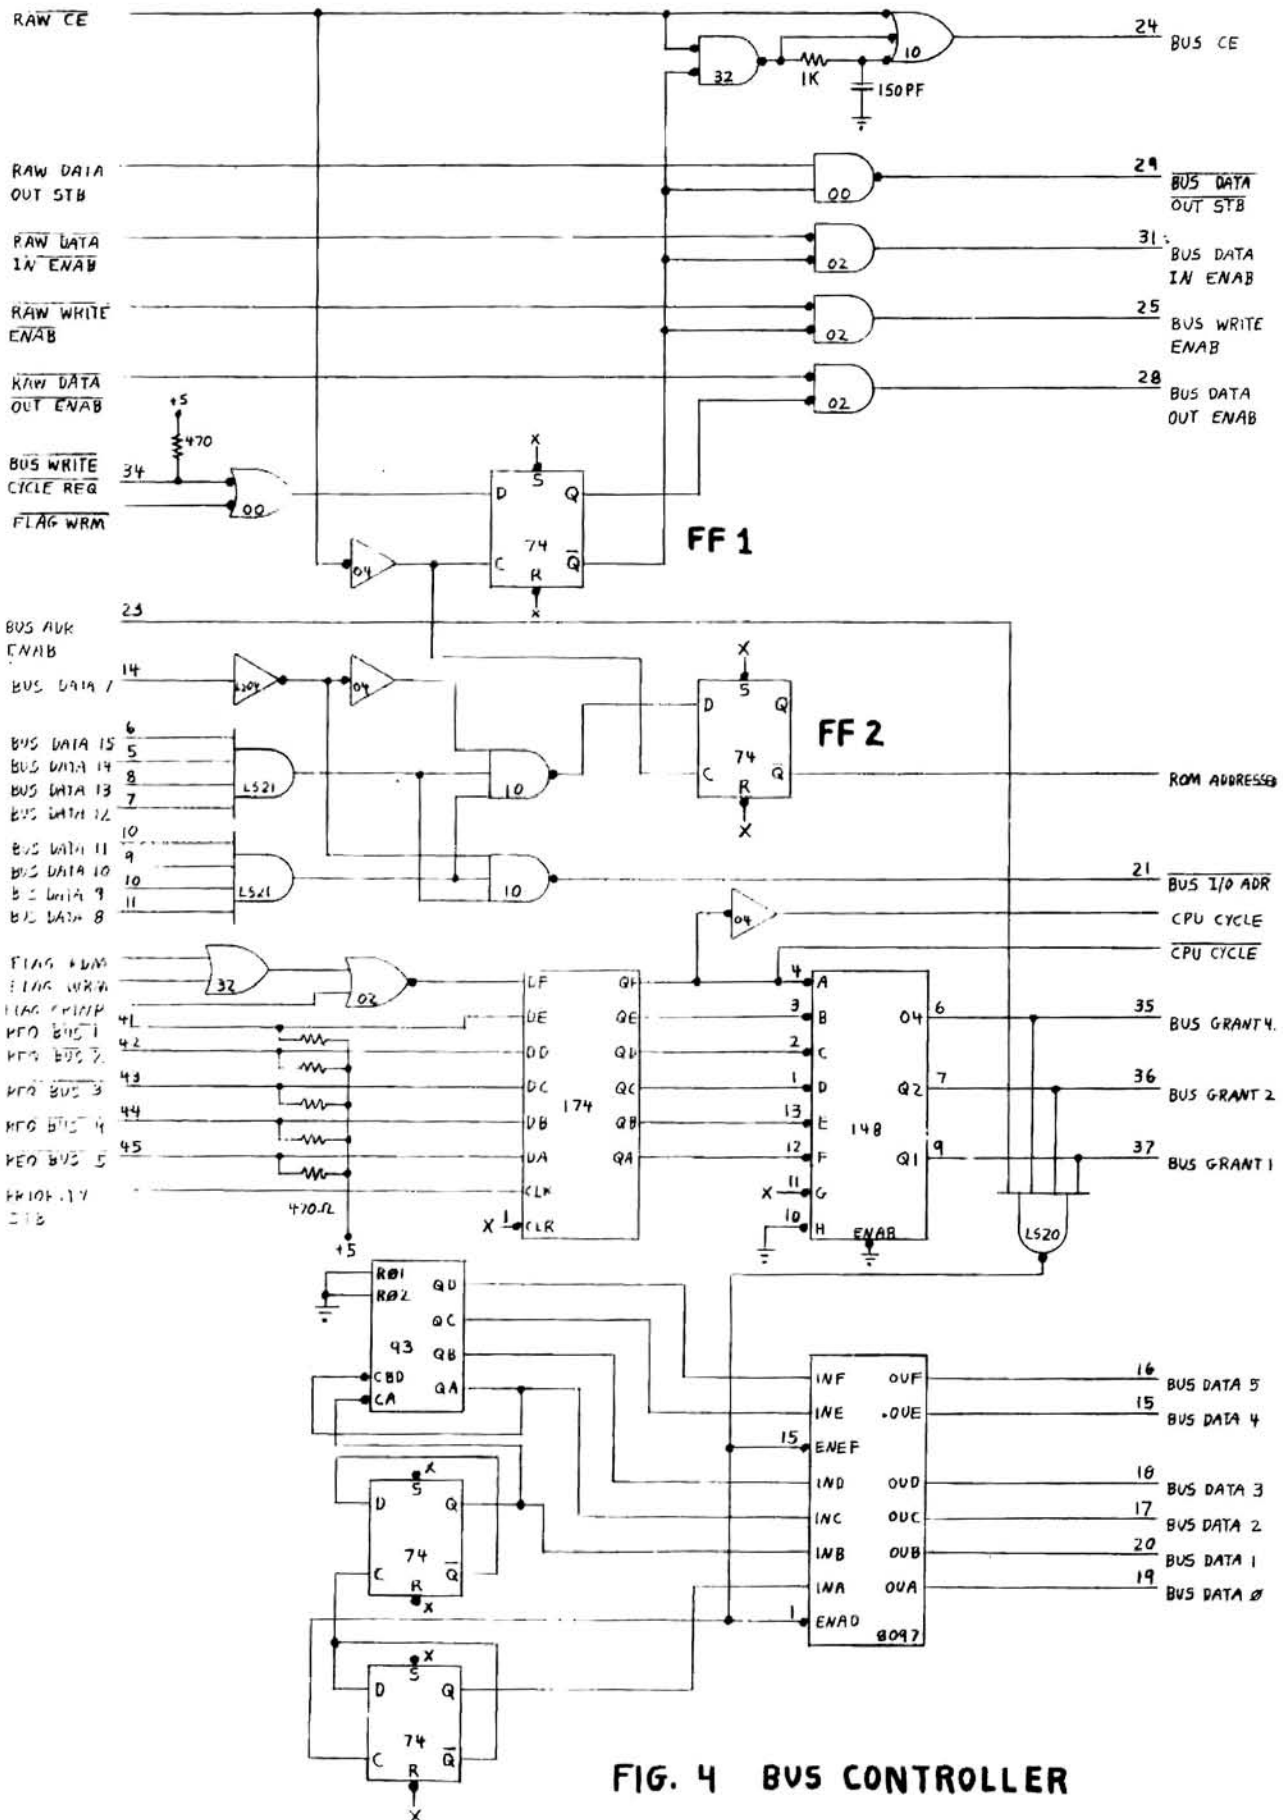

FIG. 4 BUS CONTROLLER
The logic in the upper third of figure 4 modifies some of the timing signals from the PROM according to bus cycle type; read or write. Flip-flop 1 samples BUS WRITE REQUEST at the leading edge of BUS CE and retains the read/write decision for the remainder of the cycle. The network at the top of the page consisting of a 7432 and 7410 delays the fall of BUS CE by 50NS during write cycles. It behaves as a simple inverter during read cycles. Lengthening BUS CE during write cycles only provides improved timing margins for writing into 4K RAM's without unnecessary power dissipation during read cycles. The gates on BDOE and BDOE gate these signals on for read cycles and off for write cycles. Likewise, BDIE and BWE are gated on for writes and off for reads.
The bottom of figure 4 is the refresh logic for all dynamic memory in the system. A 74LS20 detects the coincidence of refresh grant (111) and BAE which indicates that the refresh address should be placed on the bus. The output thus enables an 8097 which gates the 6 significant refresh bits onto the bus. The other 10 bits assume a logic 1 and the bus controller assumes a read cycle. When the 8097 is gated off again, a 6 bit counter made from a 7474 and a 7493 counts up one notch in preparation for the next refresh cycle. Two 8556 tri-state counters could have replaced the 7474, 7493, and 8097 used here but they were too hard to get to justify their use.